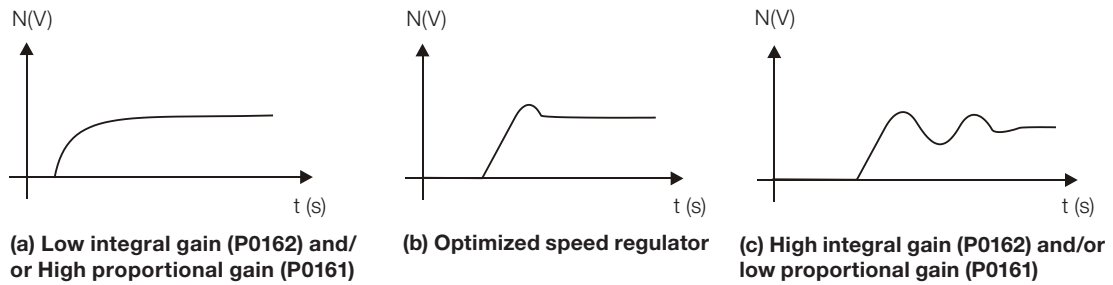

Figure 12.5: (a) to (c) Speed regulators response types
6. Verify among the options of the Figure 12.5 on page 12-15, which waveform best represents the observed signal.
7. Adjust P0161 and P0162 according to the response type presented in the Figure 12.5 on page 12-15.